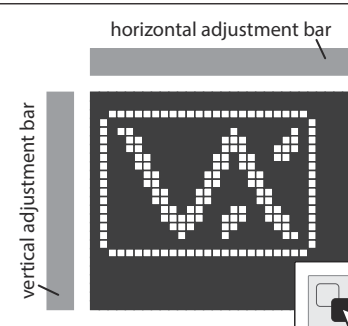

Fig. 86
- Next highlight and click on the reverse icon, as shown in **Fig.86**.